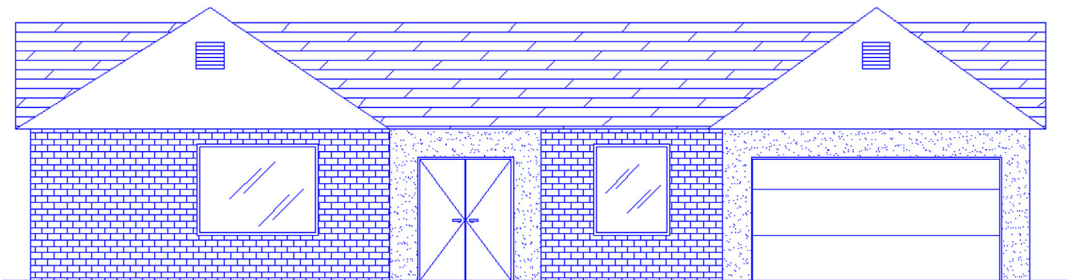

FIGURE 18.24
Step 3. Complete the elevation by adding exterior wall hatch and some other finishing touches. Figure 18.24 shows the final result. Repeat the same procedure for at least one other side of the house or complete all four.